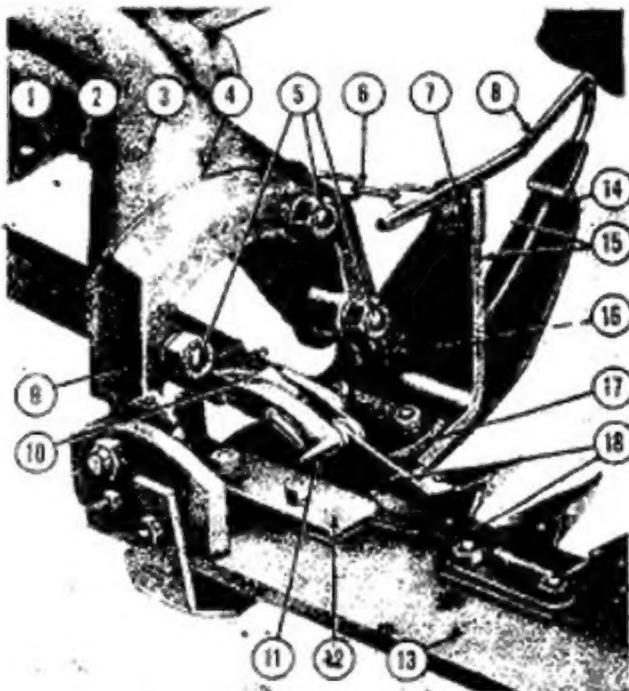
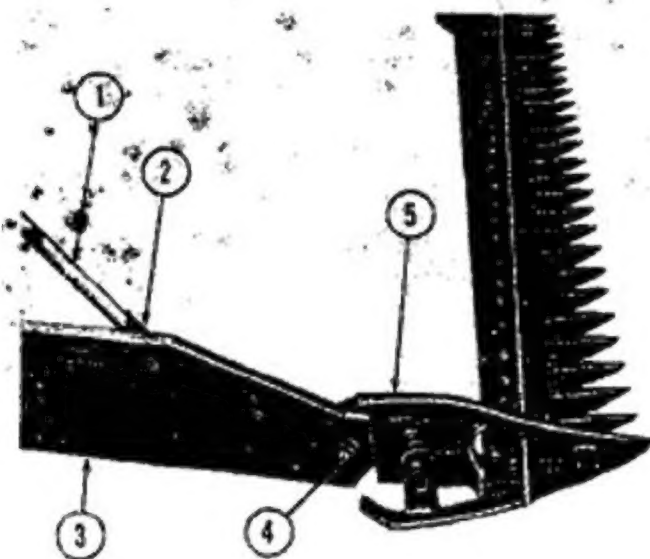
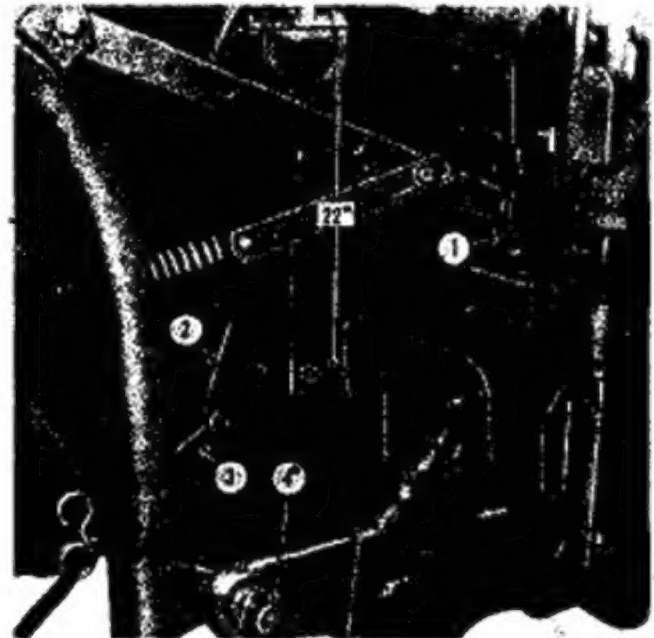

Figure 20
Figure 21
Figure 25
Removing the Knife: Snap the end of the lever (10), Figure 20, up and outward with the small hook on the transport rod. Lift the Pitman arm off the knife head ball with the large hook on the transport rod, and at the same time step on the lever (10) hard enough to press down the knife head ball and spread the Pitman arm straps. Slide the knife free.
a. Insert three 3/4" x 3-1/2" carriage bolts (5), Figure 20, through the slots in the yoke end of the lower frame (3), and place the register shims (4) on the bolts. Place the cutter bar and Pitman arm in position, and push the bolts (5) through the three holes in the cutter bar yoke (9). Adjust the cutter bar tilt for approximate field conditions, and secure the bolts with lock washers and nuts.
b. Raise the outer end of the cutter bar (13), Figure 25, and attach the transport rod as shown in Figure 2. Attach one end of the lift link chain (6), Figure 20, to the rod (1) with the 1/2" x 1-3/16" pin and a 1/8" x 1" cotter pin at (2). Attach the other end of the lift link chain to the lift bracket (15) on the inner shoe with the 1/2" x 1-1/4" pin and a 1/8" x 1" cotter pin as shown at (7). Remove the transport rod and lower the cutter bar to the ground.
c. Install the grass rod (8) on the inner shoe by inserting it through the hole (14), removing the washers and the nut (16); then installing grass rod and reinstalling the flat washer, lock washer and nut (16) on the bolt, thus securing the grass rod to the shoe sole.
a. Position the swathboard (3), Figure 21, on the right side of the outer shoe (5) and insert a 1/2" x 2-3/4" bolt (4) from the left through the swathboard.
b. Place a spring and then a flat washer on the bolt (4), and secure with the slotted nut and cotter pin as shown.
c. Insert the tapered end of the wooden grass stick (1), Figure 21, into the grass stick clamp and secure with the bolt (2), flat washer, lock washer and nut provided.
- a. Release the clamp straps (11), Figure 20, on the Pitman arm by prying the Pitman lever (10) toward the cutter bar.
- b. Insert the knife assembly (18), Figure 20, under the guides (12) and (17). Do not hammer or otherwise force knife; use a large screwdriver to guide it under knife clips as pressure is applied.
- c. Position the Pitman straps (11) on the knife head as shown in Figure 20, and snap the Pitman lever (10) back in place.
6. Attach the anchor assembly (2), Figure 25, to the inside of the tractor left-hand lower link as shown. Attach the top link bracket to the tractor with the link pin.
1. Attach the lower link pins (4), Figure 25, to the mower frame.
3. Secure the push rod (3), Figure 25, to the anchor assembly (2) as shown.